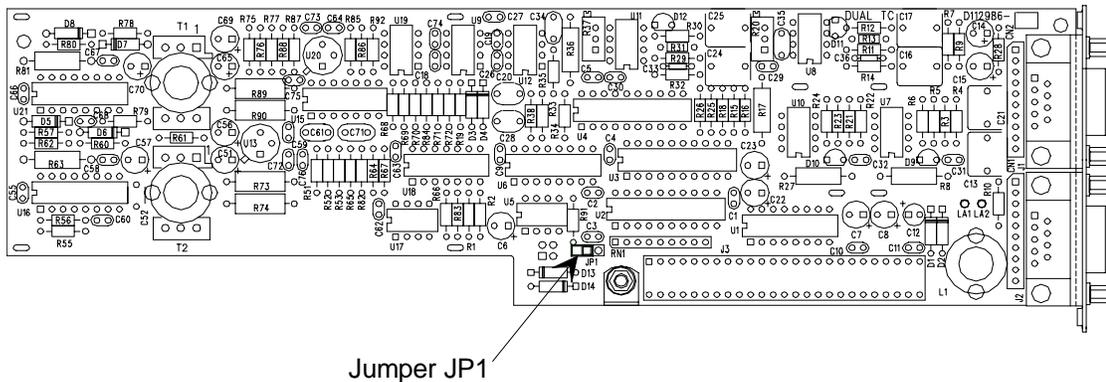

Figure 19: Jumper Placement on the Thermocouple Board
12. Locate jumper JP1, as shown in Figure 19.